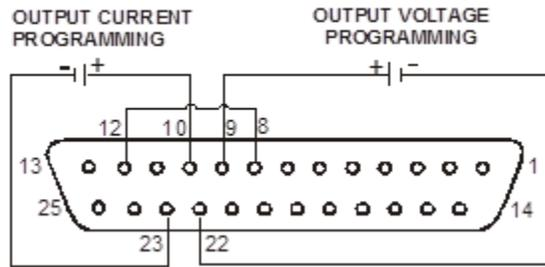

Figure 7-1. Remote Voltage Programming of Output Voltage and Current
6. Connect the programming voltage sources to the mating plug of J1 as shown in Figure 7-1. Observe correct polarity for the voltage source.